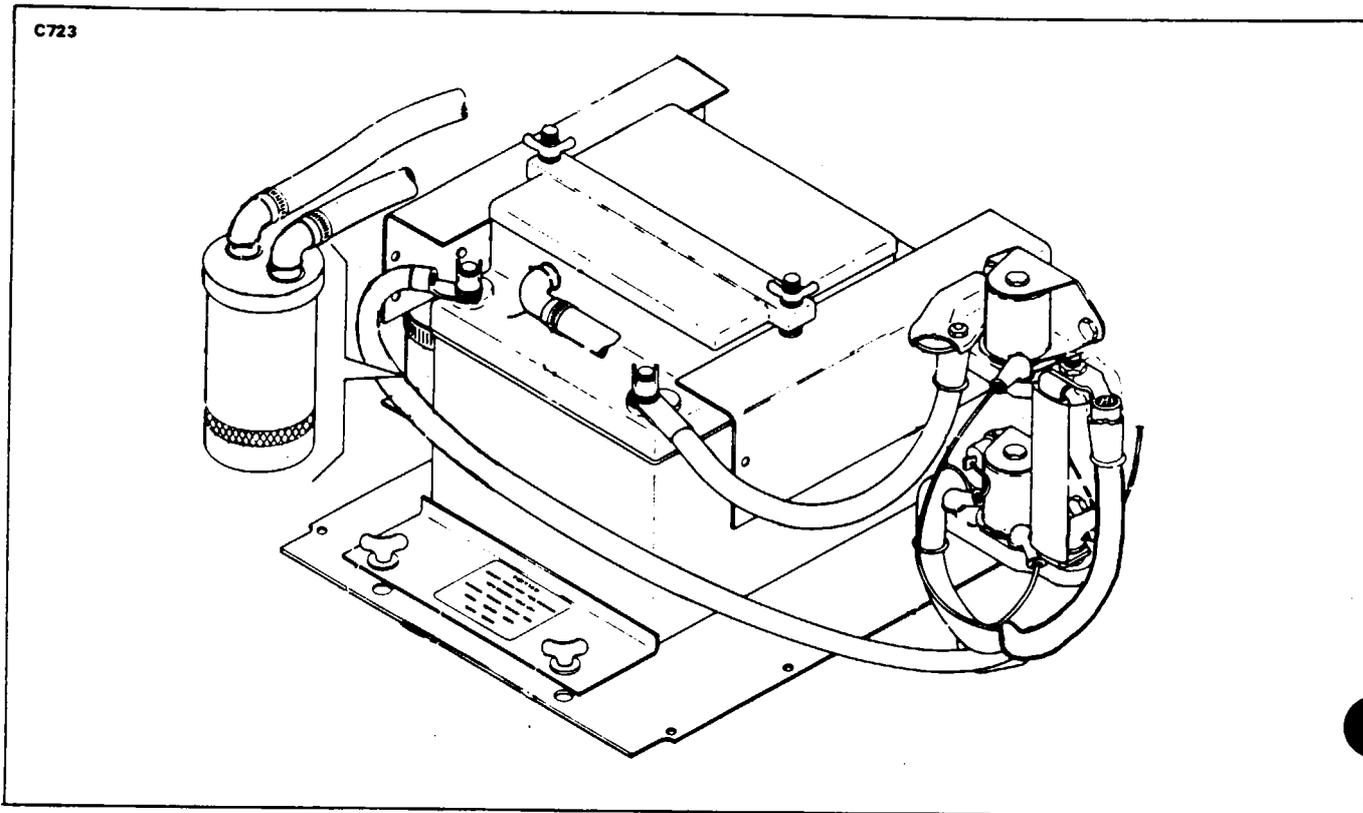

Figure 24-5. Battery System Installation
**SERVICE OF BATTERY SYSTEM.** (Refer to Figure 24-5.)
Service includes the entire battery system consisting of: The battery, acid recovery jar, vents and battery compartment. These services shall be completed every 50 operating hours or 30 days, whichever occurs first, and at every 100 hour inspection. The battery system is located in the nose section, directly behind the nose conc. (Refer to Figure 24-5.)